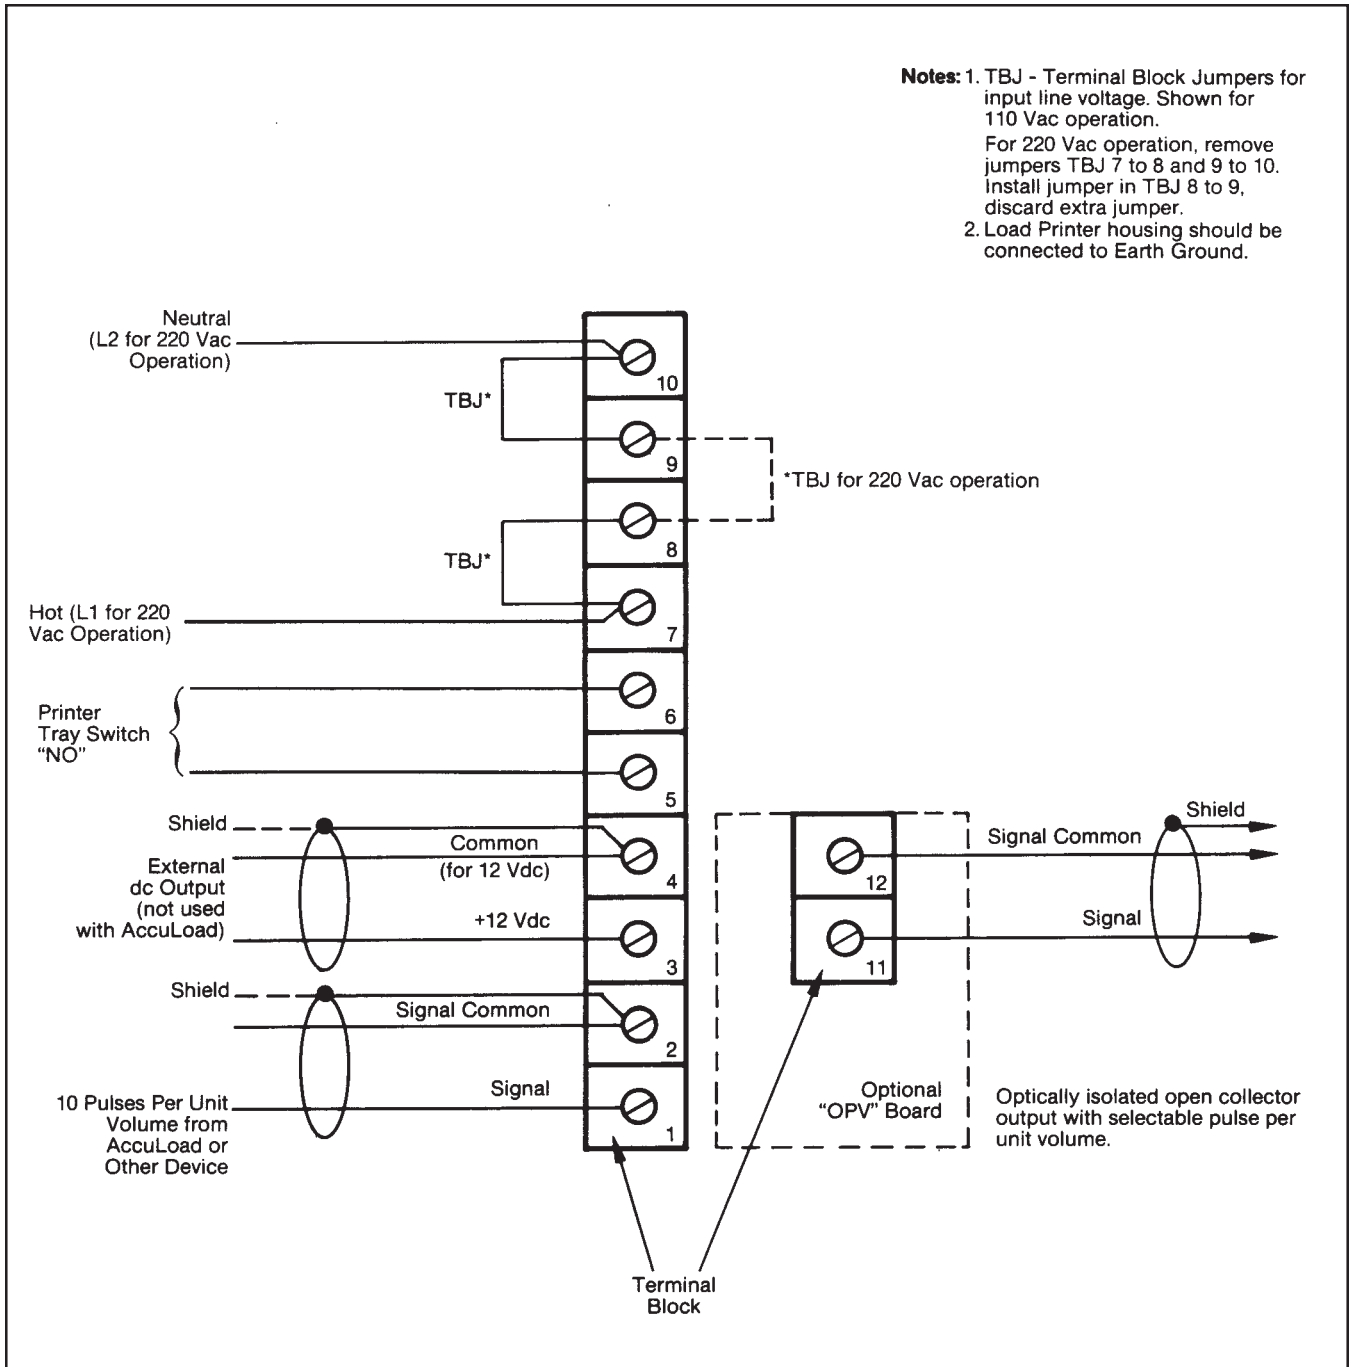

Figure 2 – Load Printer Wiring
| Wiring, Figure 2 | Page 5 |
8. **AC Power Connections.** Connect the ac electrical power input to the Terminal Strip, Terminal Numbers 7 and 10 (Figure 2). Use #14 AWG minimum stranded. AC power connections include Terminals 5 through 10. Use conduit entrance nearest front.
- a. **For 110 Vac** - Two jumpers are used. One jumper must connect Terminal Number 7 to Terminal Number 8. The second jumper must connect Terminal Number 10 to Terminal Number 9 (Figure 2).
10. Complete the other connections as follows (Figure 2):